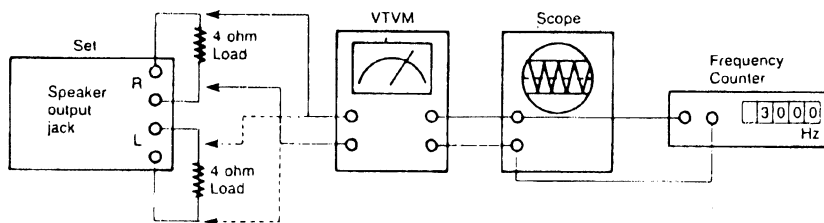

Figure 6
- Play a standard test tape recorded with 3 kHz signal (or 1 kHz). (Equipment connection: See Figure 6.)